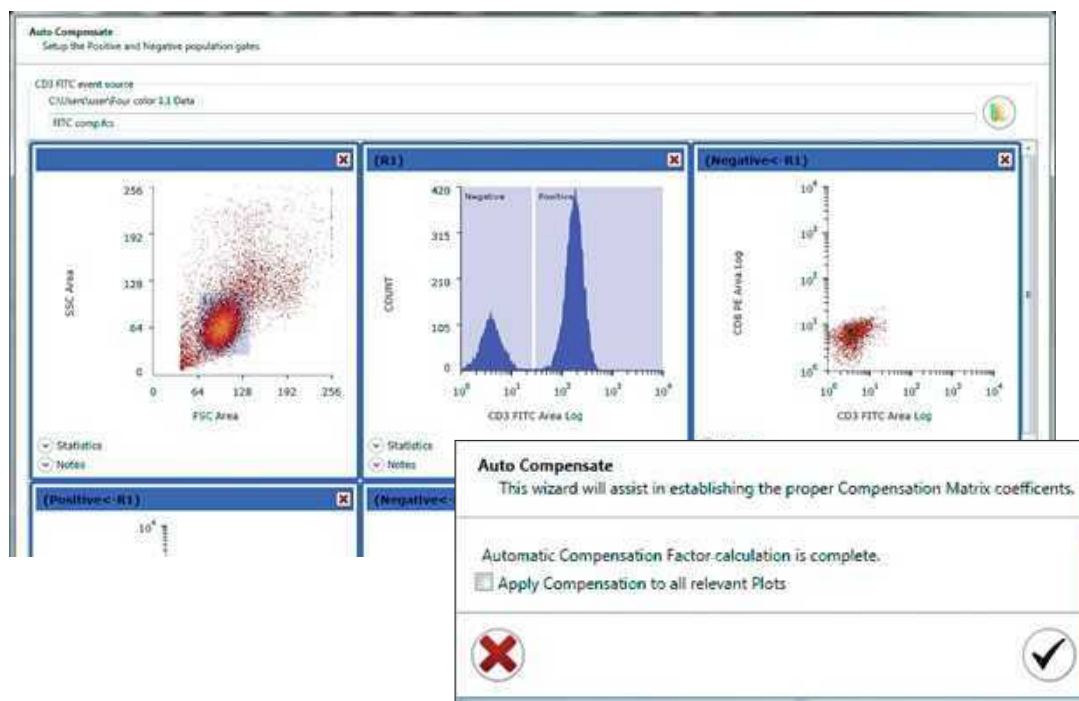

Fig. 63. Using the auto compensation wizard to adjust positive and negative gates.
8. Click the forward blue arrow to open the Automatic Compensation Calculation Wizard window (Figure 63).